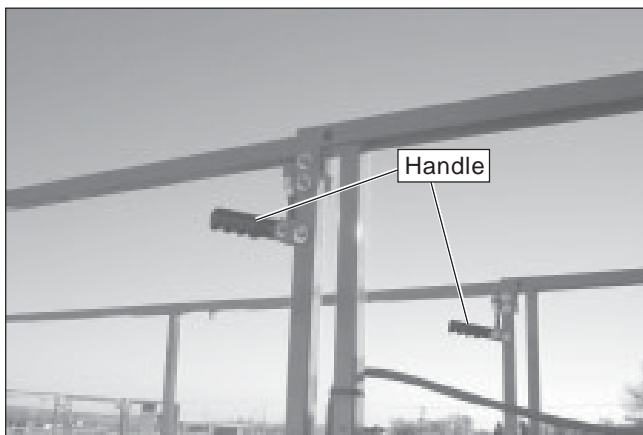

Figure 9.4 – Platform
1. Push down on the handle on each side of the front of the platform (refer to Figure 9.4).